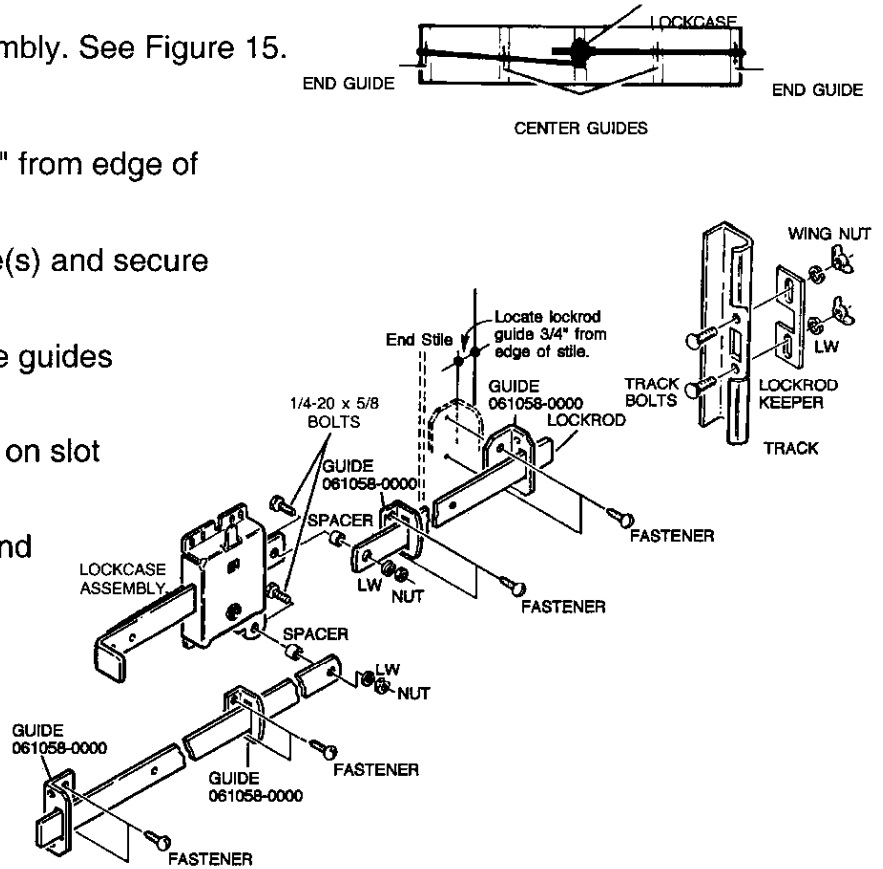

Figure 15
1. Secure lockrod(s) to lockcase assembly. See Figure 15.